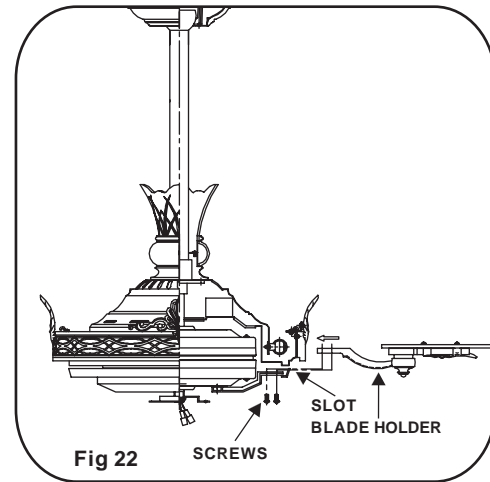

Fig 22
Step2. Insert the blade holder through the slot in housing. Align holes in blade holder and motor and secure with the screws. Repeat process with the other blades. (Fig. 22)